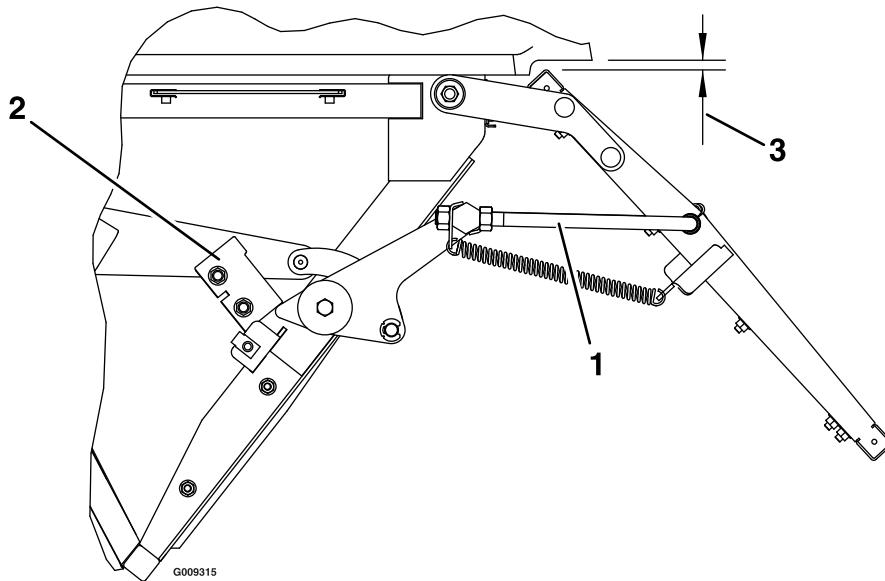

Figure 29
1. If the door does not close properly adjust the rods as shown in Figure 29.
Adjust the position of the stops (see Figure 29) so that the door link contacts them when the upper tube of the door frame is within 1/4 inch (6.35 mm) ± 1/8 (3.2 mm) from the lower lip of the molded hood.